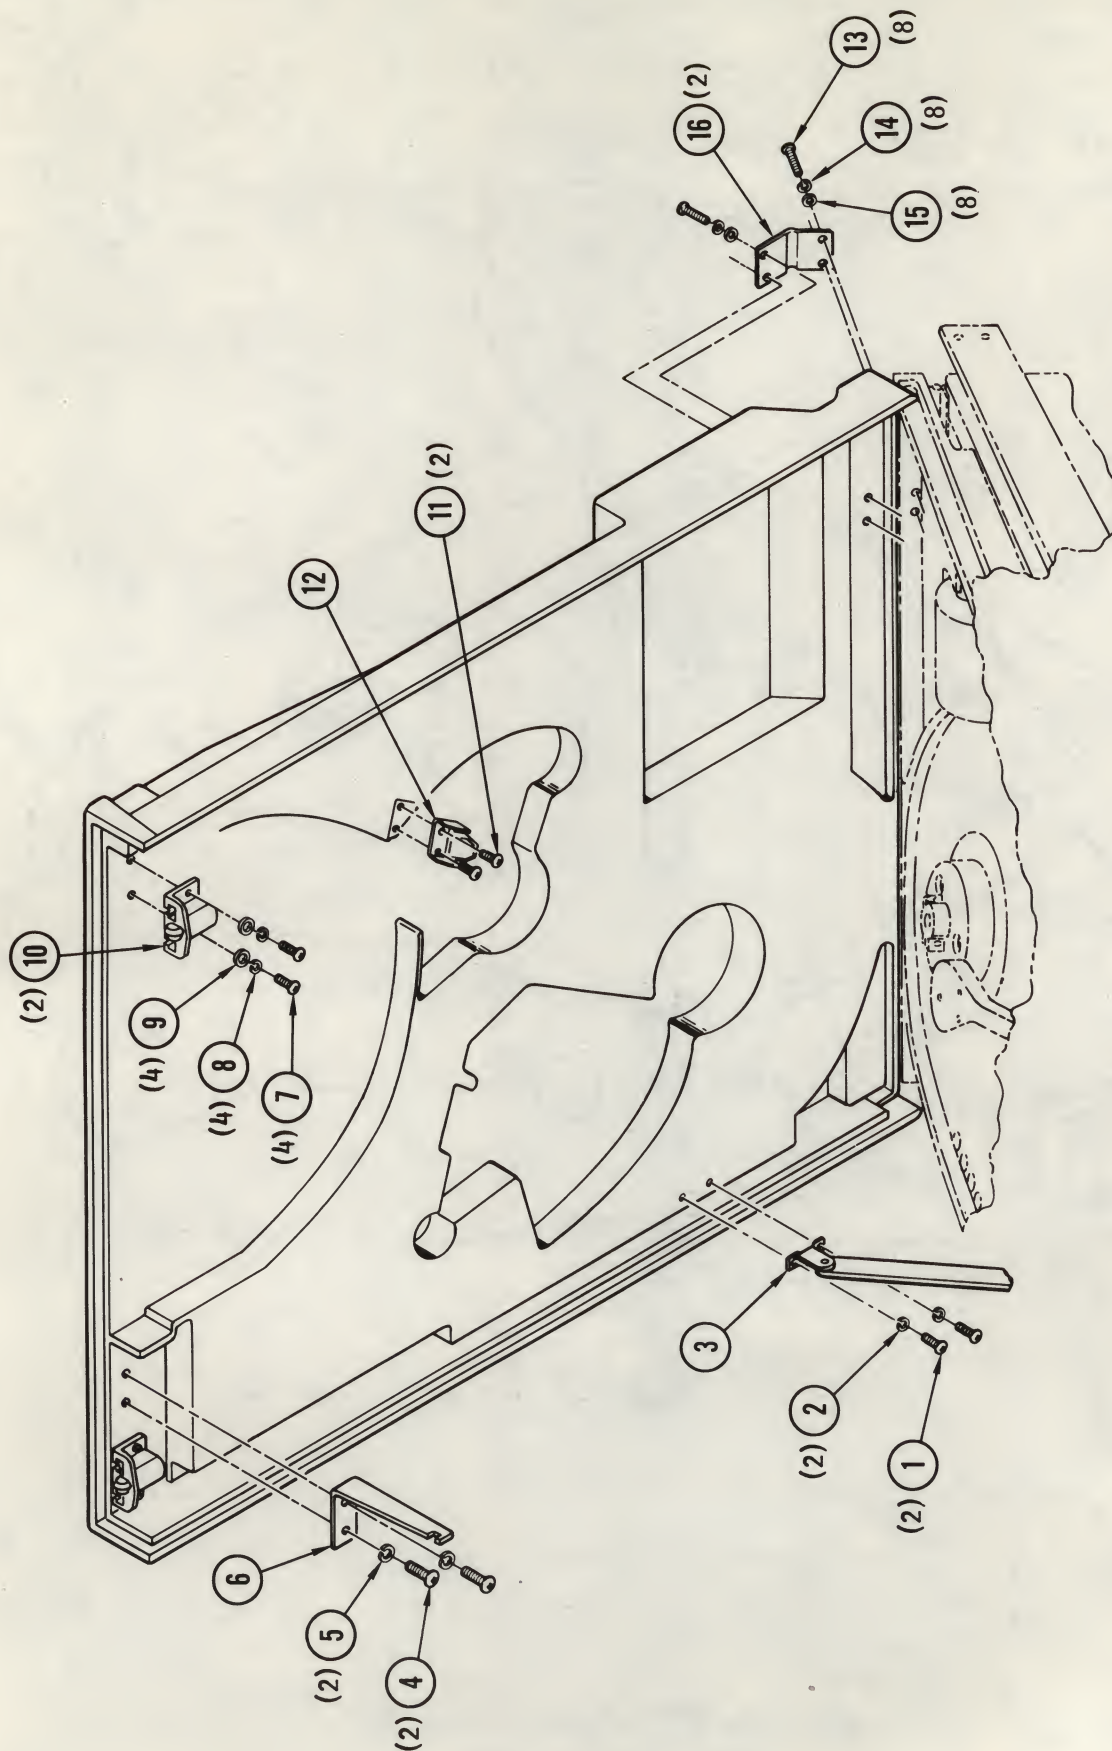

Figure 4-14. Top Cover Assembly
**4-28. Removal and Replacement of Assembly and/or Parts (Figure 4-14).** Place the transport in operator maintenance access position (paragraph 4-2). Remove damaged cover assembly, subassemblies, and/or parts as necessary in the sequence of index numbers (Figure 4-14) assigned to the item and its attaching parts, saving attaching parts for use during reassembly if necessary, and install the replacement item in reverse sequence of removal. Observe the following special instructions:
- a. When replacing catch (10) tighten screws just enough to hold and then try closing cover. If catch is too far forward and prevents cover from closing or is too far back to engage latch on front panel assembly, loosen attaching screws (7) and move catch forward or backward so that the cover closes and catch latches securely on front panel.